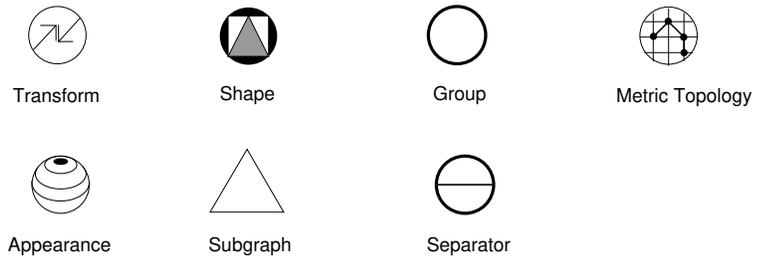

Figure 1-2 Node icons
- Figure 1-2** Node icons 4
Figure 1-2 contains the legend for nodes used in the diagrams in this document.